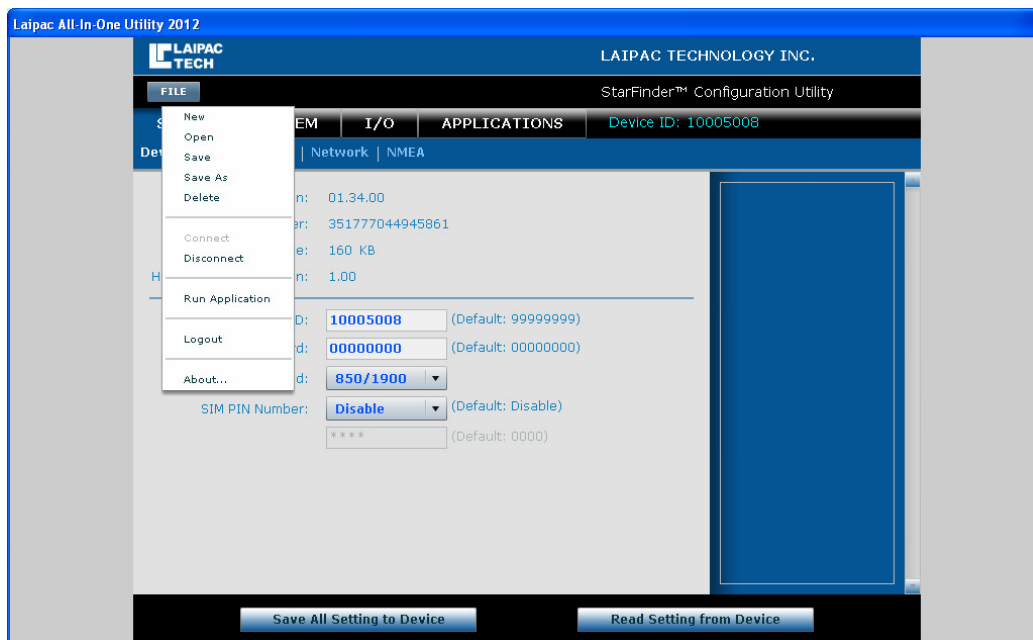

Fig. 3.4.4a
- a. Click “FILE” → “Open”, see Fig. 3.4.4a and 3.4.4b